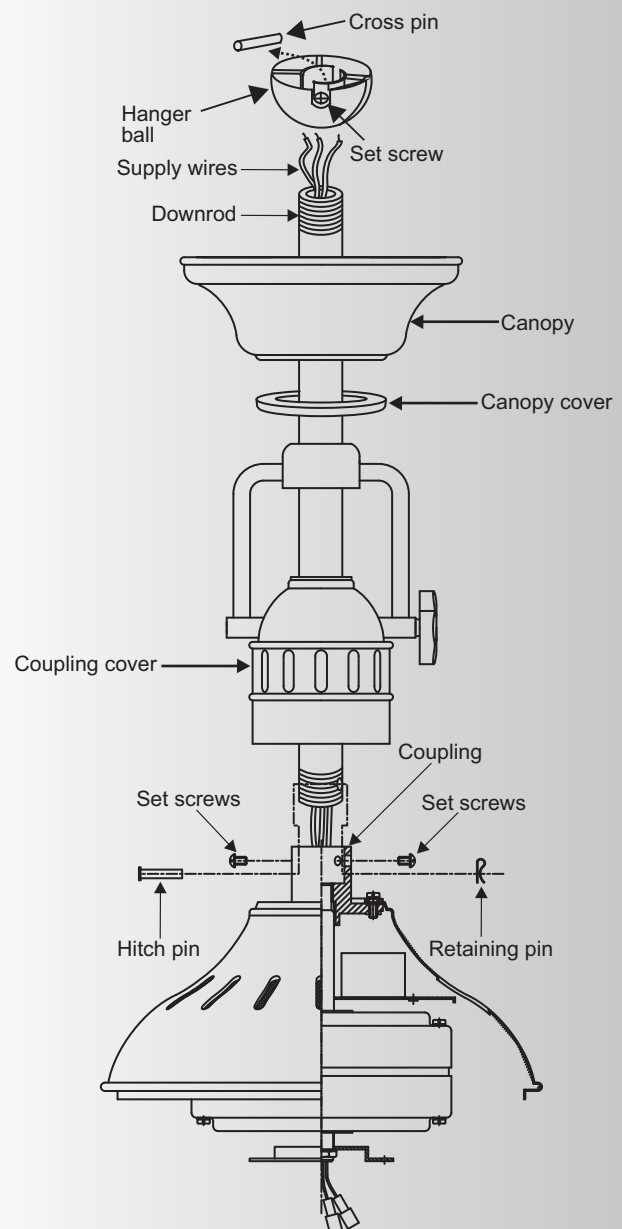

Fig. 6
Step 1. Remove the hanger ball from the downrod assembly by loosening the set screw, removing the cross pin and sliding the ball off the rod. (Fig.6)
Step 2. Loosen the two set screws and remove the hitch pin and retaining clip from the coupling on top of the motor assembly. (Fig. 6)
Next, replace the hitch pin and retaining clip. Tighten both set screws. (Fig. 6)
Thread the hanger ball onto the downrod, insert the cross pin through the downrod and tighten. Now tighten the set screw. (Fig. 6)